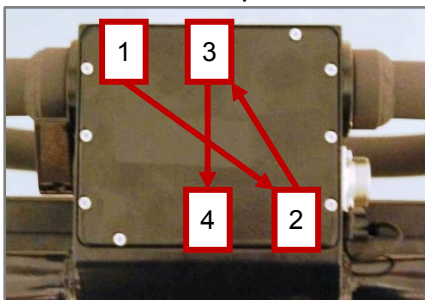

Figure 20 – closing the battery compartment
2. Open the bottom cover (see figure 20) to access the battery compartment, by removing all the screws with an appropriate screwdriver;
8. Close the battery compartment with the cover, applying moderate force to tighten the screws; tight the screws in a diagonal mode as shown in figure 20 in order to evenly distribute the pressure on the compartment cover.